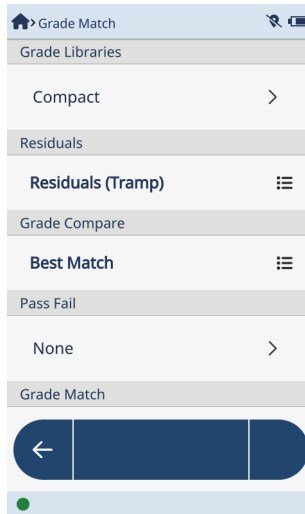

Figure 2-58 Pass Fail, Grade Compare, Residuals, and Grade Libraries areas
- **Pass Fail** (see Figure 2-58 on page 74).
- **Residuals** (see Figure 2-58 on page 74).
- **Grade Compare** (see Figure 2-58 on page 74).
- **Grade Libraries** (see Figure 2-58 on page 74).